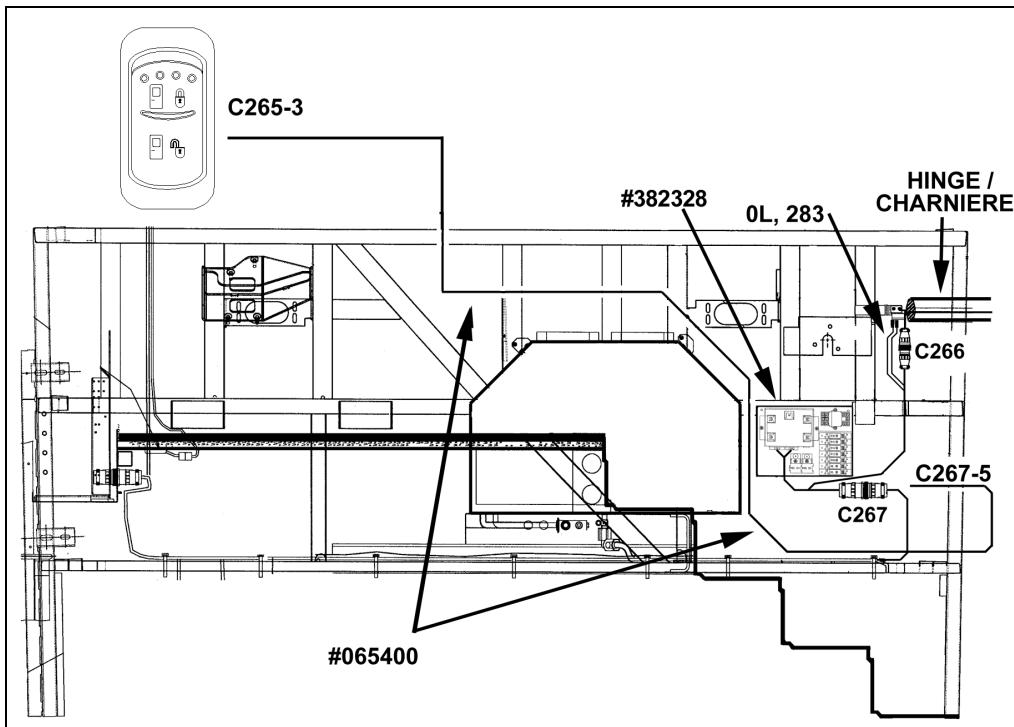

FIGURE 1: LOCATION OF KEYLESS ENTRY MODULE ON FRONT STRUCTURE VIP
2. Unplug all connectors and remove the existing module (figure 1).
3. Install new module #382328 (drilling of holes may be required on the frame). Plug connectors C266 and C267 as per figure 1.
4. Connect wires 0L and 283 to the limit switch near the door top hinge (figure 1 et 2).
5. Insert extremity labeled C267-5 of harness #065400 into port 5 of connector C267 as per figure 1.
6. Route harness #065400 up to rear of dashboard. Remove existing wire 285 from port 3 of door entrance lock/unlock rocker switch and insert extremity labeled C265-3 of harness #065400 into port 3. Insulate connector of wire 285 with heat shrinking sleeve (figure 1).